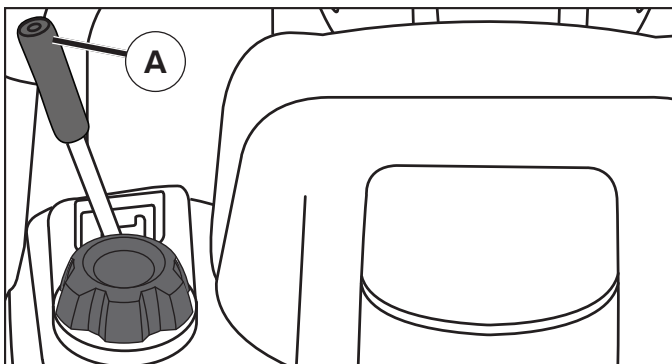

Fig. 8
- Slowly depress forward (K) or reverse (L) drive pedal to begin movement. Ground speed increases the further down the pedal is depressed.
TO USE CRUISE CONTROL (J) (See Fig. 8)
(See Fig. 8)